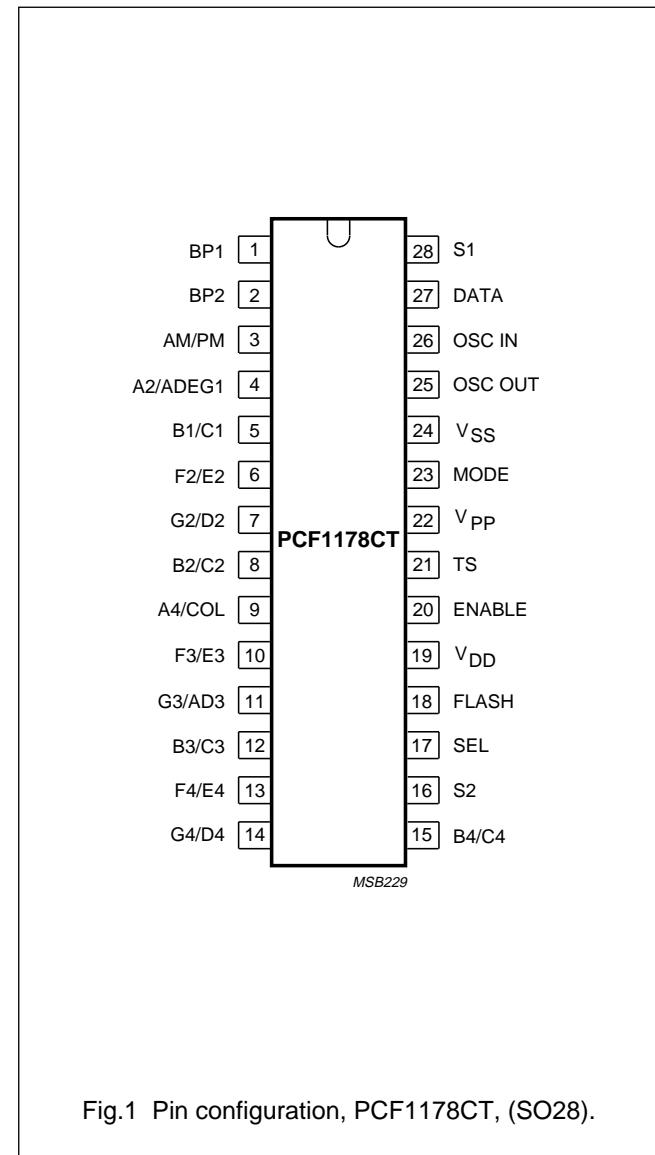

Fig.1 Pin configuration, PCF1178CT, (SO28).
1. See Fig.1 and Chapter "Package outline" for pin layout and package details.